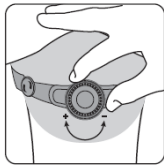

Fig. 3
3. To adjust the fit more closely, you can adjust the angle of the helmet on your head (Fig. 3).